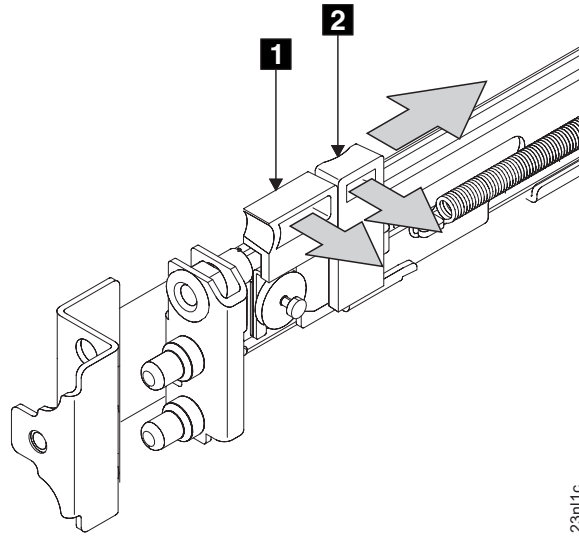

Figure 126. Opening the front latch-lock carrier assembly
3. Gently push the latch lock **2** away from the rail as you move the latch lever **1** toward the far end of the rail (Figure 126 on page 457). The latch-lock carrier assembly slides against the spring tension.